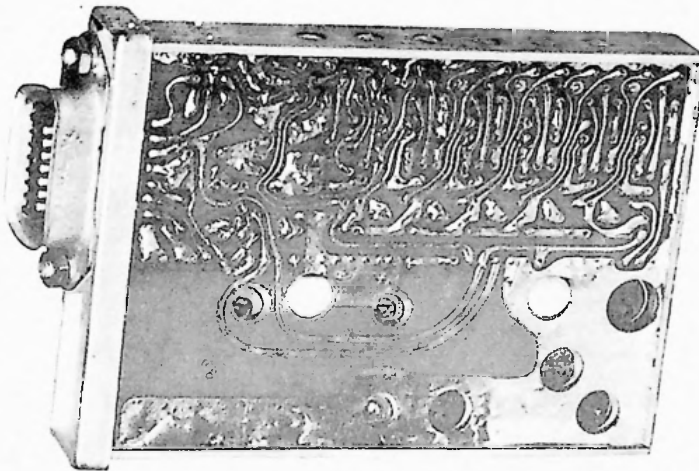

Figure 6. Typical transistor module.
b. A typical transistor module of a computer is shown in figure 6. It is about one-fourth the size of the comparable vacuum-tube type. When this saving in space is multiplied several thousand times (the number of modules in a typical computer), a vacuum-tube model requiring four rooms, when transistorized, can be reduced to a size requiring only one room. Furthermore, the transistorized computer is less expensive and more reliable, its power and cooling requirements are greatly reduced, and its maintenance is greatly simplified.